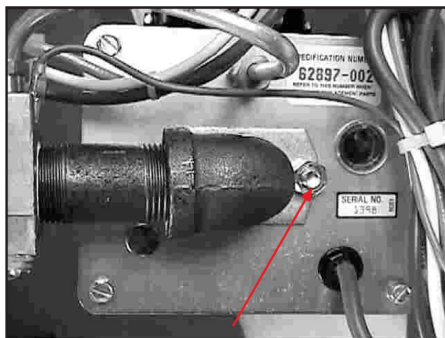
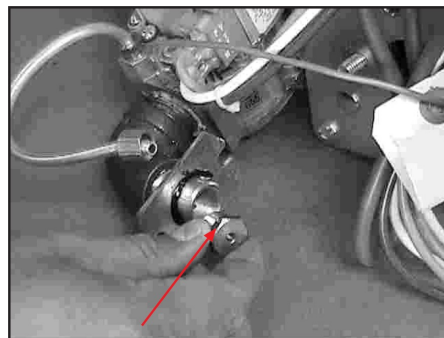

Figure 4: Pilot Line & Orifice Flange Nuts
Figure 5: Main Orifice
3. To change the main orifice: Remove the valve and orifice flange from the back of the burner by loosening the pilot line and removing the two nuts that hold the orifice flange in position (figure 4), then grasp the valve and pull it away from the burner (figure 5). Use a wrench to loosen the orifice and then remove it, replacing it with the correct orifice supplied with the conversion kit.